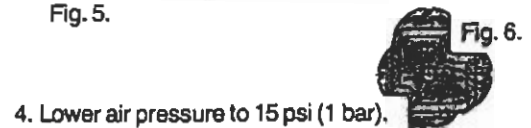

Fig. 6.
**NOTE: ONLY OUR SPECIAL CLEANING TOOL SHOULD BE USED! (See Fig. 6)**